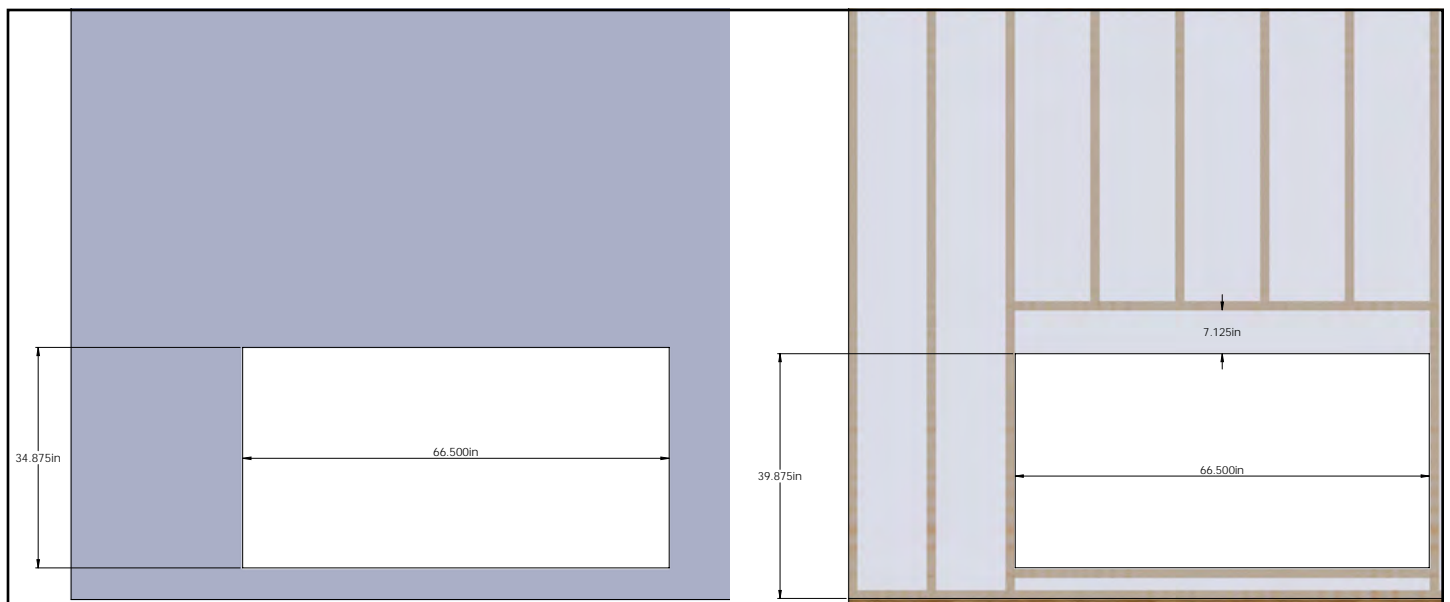

Figure 15.0.02
**Step 01:** Install the facing material. Facing material may be combustible. See **Figure 15.0.02** for facing material dimensions.